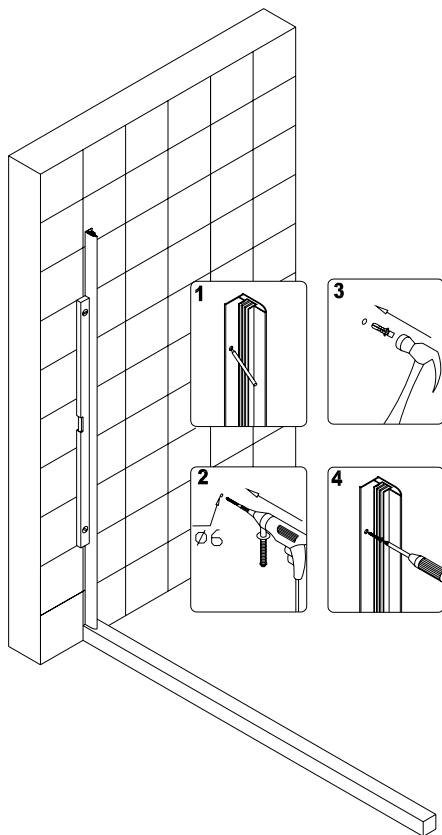

Fig 1
1. Attach the **wall profile (01)** to the wall using **Wall anchor (07)** and **Screw ST4.2×30 (10)**. Make sure the wall is perfectly leveled and plumbed (fig 1).